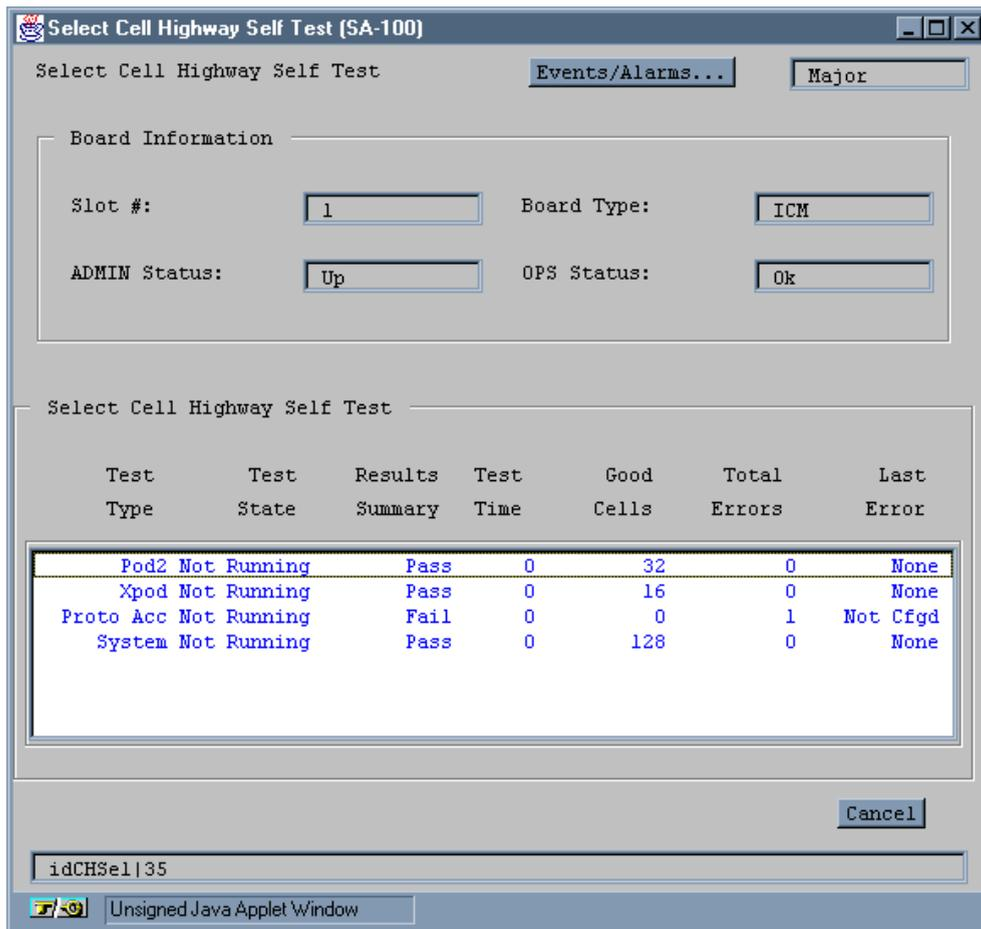

Figure 8-3. Select Cell Highways Self Test Window
- Choose the ICM whose cell highways you wish to test. (The SA 100 has only one ICM; double-click on it in the Select Slot list.) The Select Cell Highways Self Test window appears (Figure 8-3):